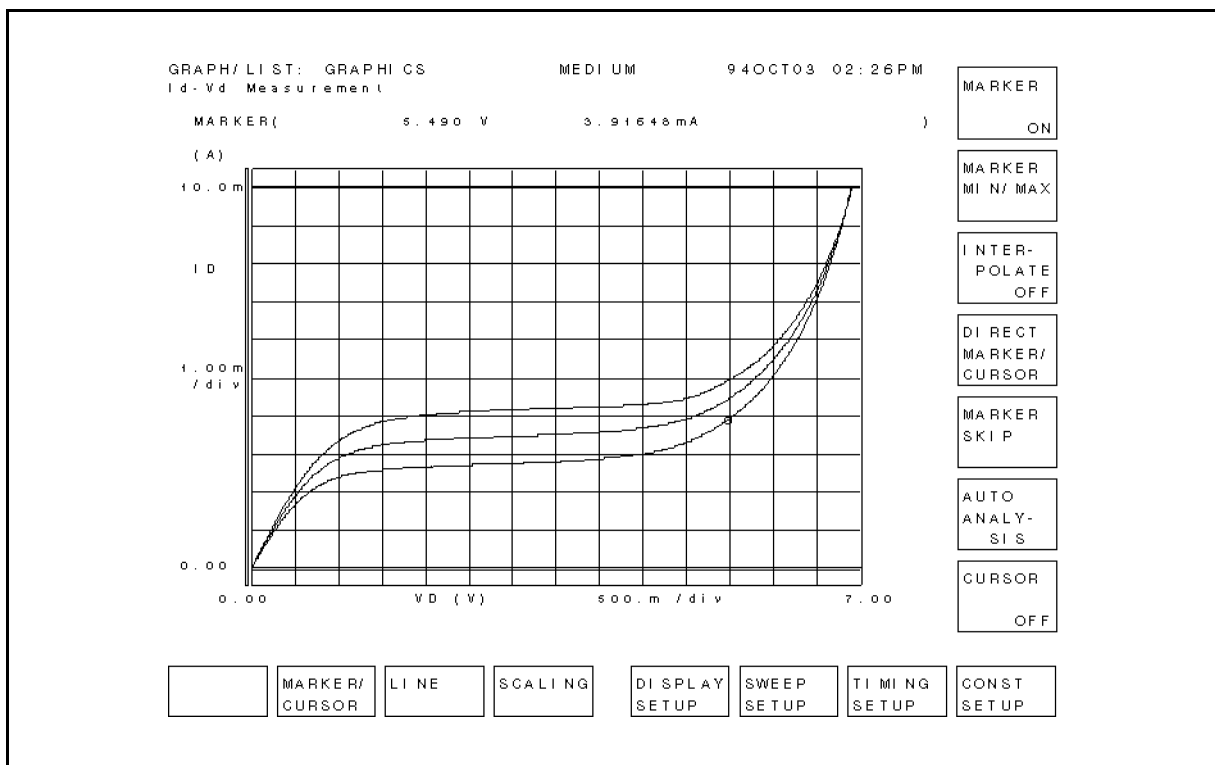

Figure 4-4. Id-Vd Measurement Example
2. Load the IDVD.MES setup file from the diskette into the HP 4155A/4156A, then perform the measurement. The Id-Vd measurement is displayed as shown in Figure 4-4.